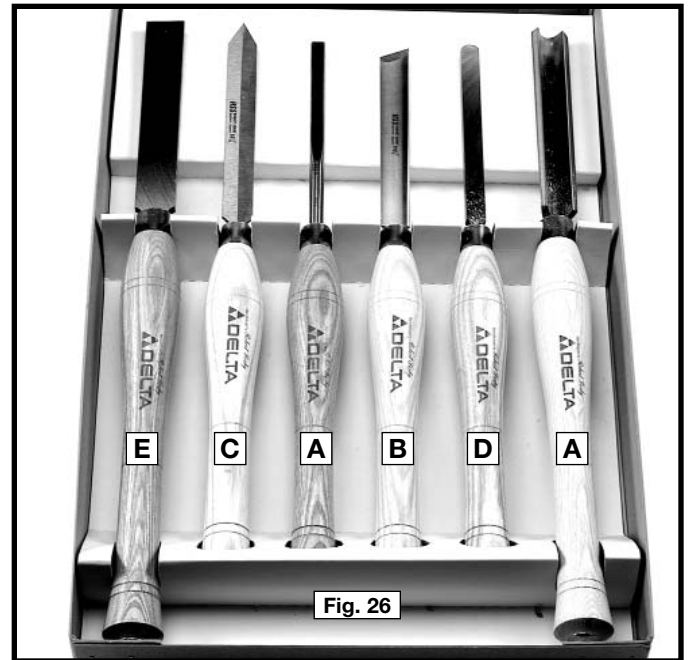

Fig. 26
Standard wood turning tools come in several different configurations (Fig. 26). The majority of turnings will require the gouge tool (A) Fig. 26. This round nosed hollow chisel is used for roughing cuts, cove cuts and other operations. The skew chisel (B) is a double-ground flat chisel, with an angled end. This tool is used for smoothing cylinders, for cutting shoulders, beads, vee-grooves, etc. The parting tool (C) is a double-ground chisel, used for cutting-off, or for making straight incisions or sizing cuts to any required diameter. The round nose scraper (D) is used for mostly hollowing work, while the square-end scraper is mainly used for the outside of bowls.